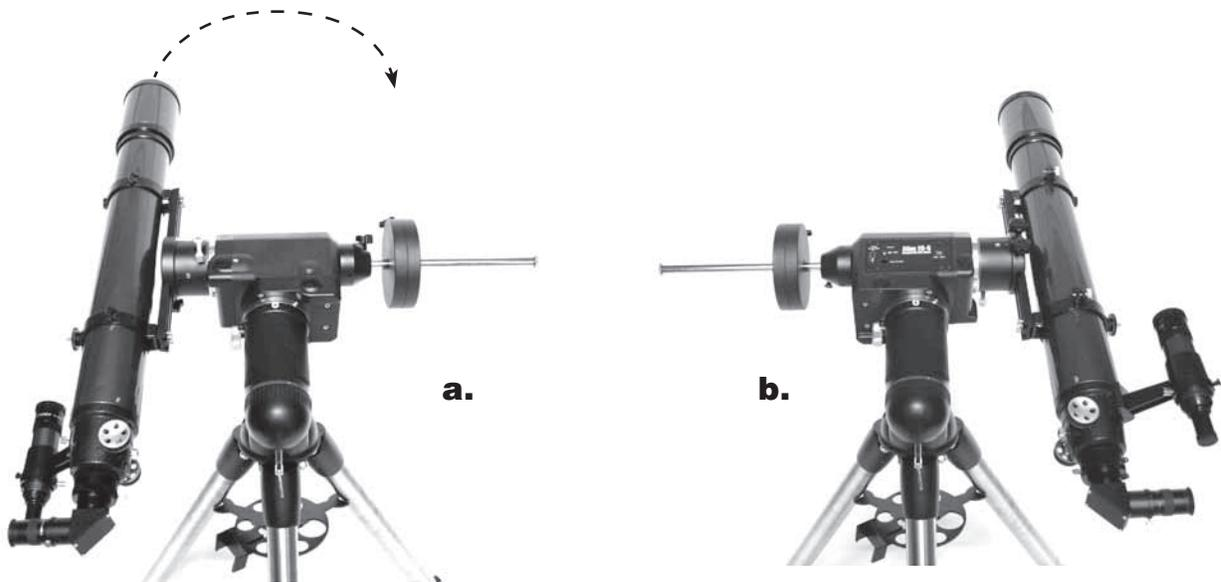

Figure 12. Rotate the telescope 180° about the R.A.axis.
9. Loosen the R.A. lock knob and carefully rotate the telescope 180° about the R.A. axis (**Figure 12**) This should be done as accurately as possible referencing the R.A. mechanical setting circle.